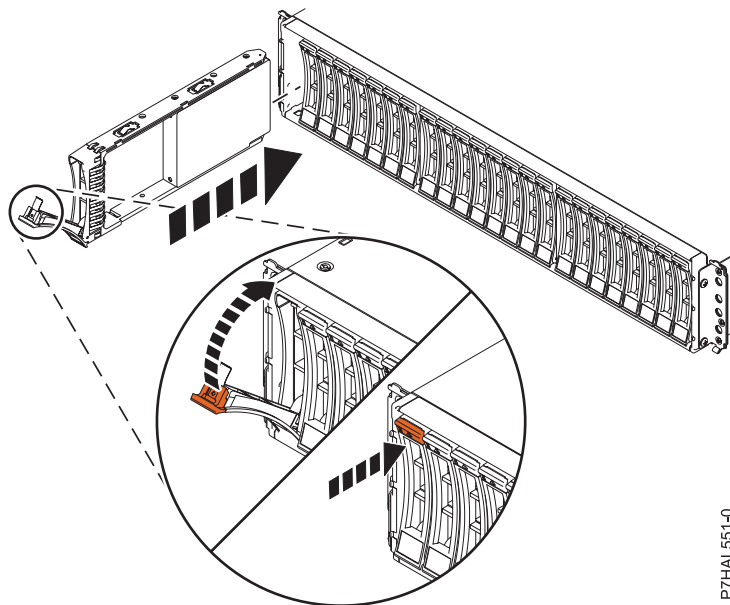

Figure 6. Installing the disk drive in the 58/87 disk drive enclosure
1. With the handle in the unlocked position, see Figure 6 on page 13, support the bottom of the drive as you align it with the guide rails in the expansion unit.